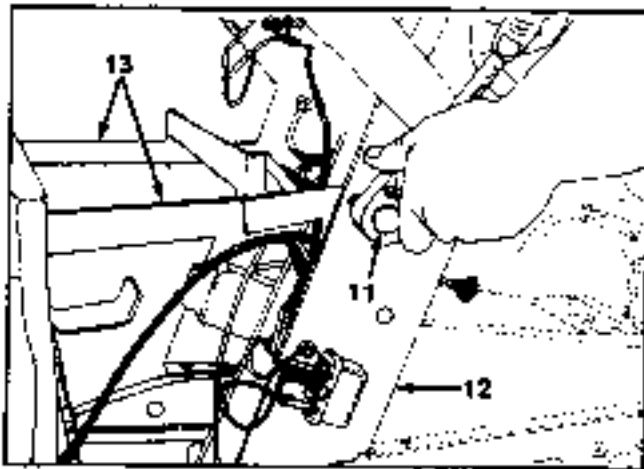

FIGURE 10.
10. Remove the hex bolts on each side of pedestal and gas tank straps. See figure 10.